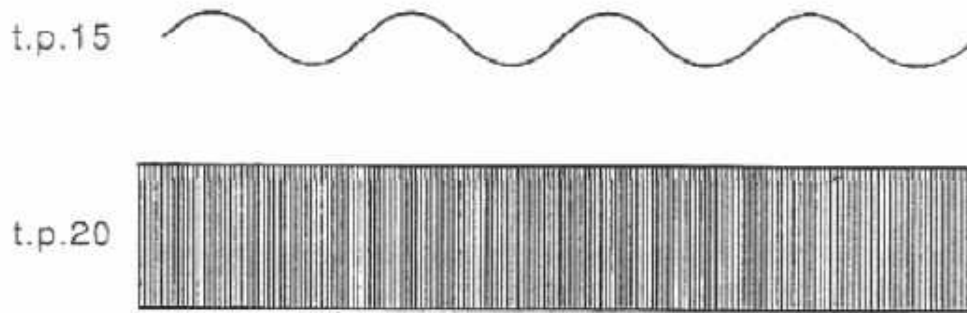

Figure 5: Input Audio Signal and SSB output Signal
8. Monitor the output of the ceramic band pass filter block (at t.p. 20) together with the audio modulating signal (at t.p.15) using the later signal to trigger the oscilloscope. Note that the envelope of the signal at t.p. 20 now has fairly constant amplitude, as shown in Fig.5.